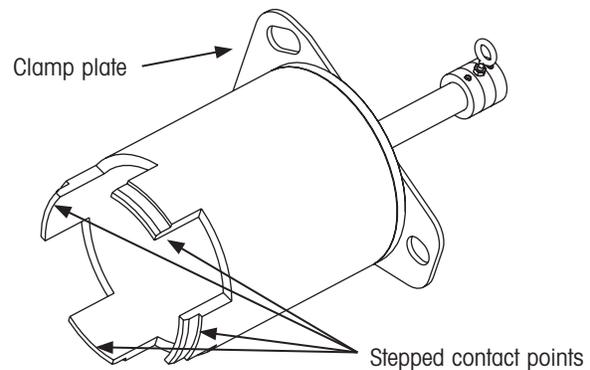

Figure 7: Wheel extender subassembly
3. Guide the wheel extender subassembly (Figure 7) onto the wheel using the previously installed stud extenders as pilots. The stud extenders should be outside of the wheel extender subassembly.
- Securely hand-tighten the upper wing nut, making sure the wheel extender subassembly is firmly seated on the face of the wheel. There must be no gap between the wheel extender subassembly and the face of the wheel at all four stepped contact points (Figure 7). Now securely hand-tighten the lower two wing nuts, again making sure the wheel extender subassembly is firmly seated on the face of the wheel and there are no gaps.